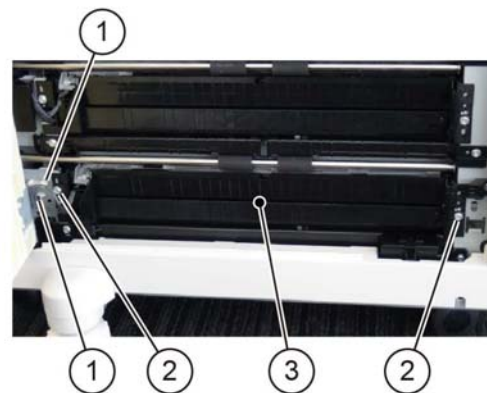

Figure 2 Tray 4 feeder assembly removal
5. Remove the tray 4 feeder assembly, Figure 2:
- a. Disconnect two connectors (1).
- b. Remove two screws (2).
- c. Remove the tray 4 feeder assembly (3).